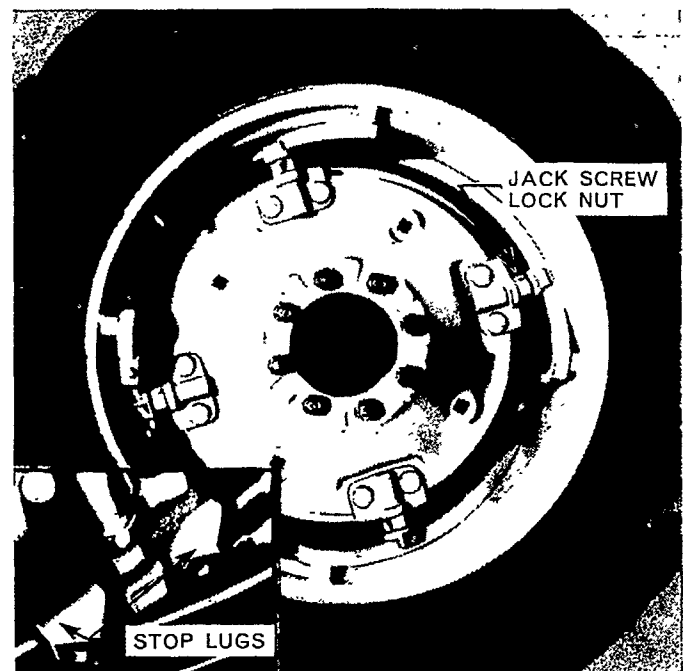

Figure 3
The power adjusted rear wheels allow the rear wheels to be adjusted from 52 inch (132 cm) to 80 inch (203 cm) in 4 inch (10.2 cm) steps. The wheels have two track ranges depending upon the position of the concave side of the wheel disc. The minimum range with the disc concave 'in', toward the tractor, as shown in Figure 3, is 52 inch (132 cm) to 72 inch (183 cm). The maximum range with the disc concave 'out' is 60 inch (152 cm) to 80 inch (203 cm).
5. Install the second lug at the opposite side of the jack screw as in Figure 3.